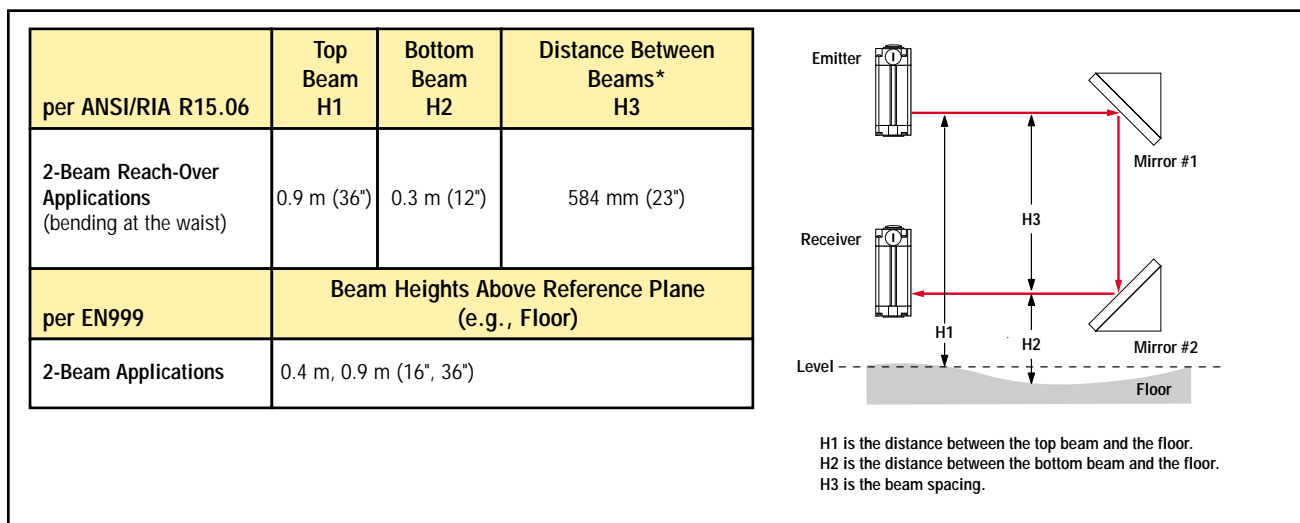

Figure 3-13. Verify required height between the top and bottom beams and the floor, throughout the length of the beam path, per applicable standards.
If the floor has a dip, as for a drain, or is raised up within the path of the beams, corrective measures must be taken to ensure that the requirements of ANSI/RIA R15.06 or EN999 are met (see Figure 3-13). It is important that the distances between the top and bottom beams and the floor meet the requirements of the applicable standards, throughout the length of the beam path.
2. Mount the emitters and the receivers, using the supplied EZ-GUARD mounting brackets, so that the beam closest to the floor is at the proper height, typically 12" or 16" (see Figure 3-13) from the floor. Refer to the appropriate standards for specifics on the correct beam configuration and mounting of EZ-GUARD Point systems. Do not fully tighten the screws until the sensors are aligned.
4. Position the emitter, receiver and mirrors so that the beam path meets the requirements of the applicable standards. See Mounting the Sensors and Figure 3-13 on page 29.